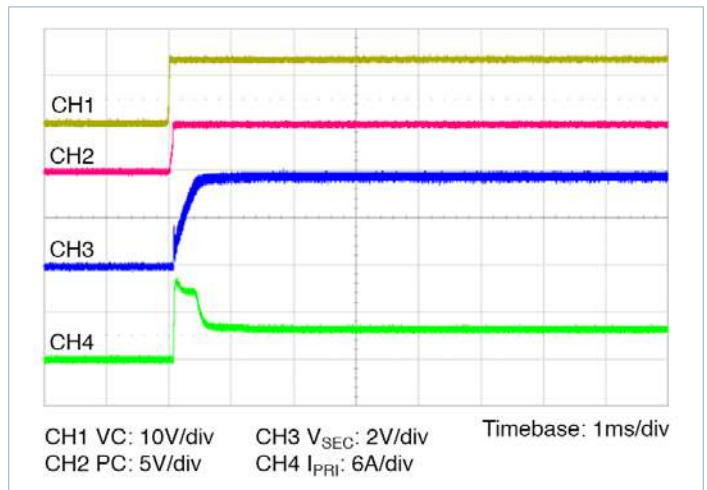

Figure 14 — Start up from application of  $V_C$ ;  $V_{PRI}$  pre-applied  $C_{SEC} = 9100\mu$ F
- Stand-alone operation (VC applied after VPR1): In this case the VTM secondary will begin to rise upon the application of the VC voltage (See Figure 14). The Adaptive Soft Start Circuit may vary the secondary voltage rate of rise in order to limit the inrush current to its maximum level. When starting into high capacitance, or a short, the secondary current will be limited for a maximum of 1200µs. After this period, the Adaptive Soft Start Circuit will time out and the VTM module may shut down. No restart will be attempted until VC is re-applied or PC is toggled. The maximum secondary capacitance is limited to 9100µF in this mode of operation to ensure a successful start.